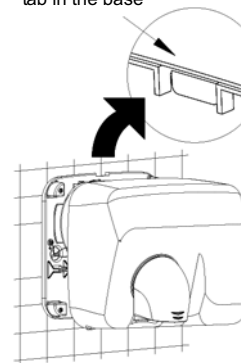

Fig. 9
- Insert the upper tab in its housing in the base (see figure 9) by slightly tilting the cover.